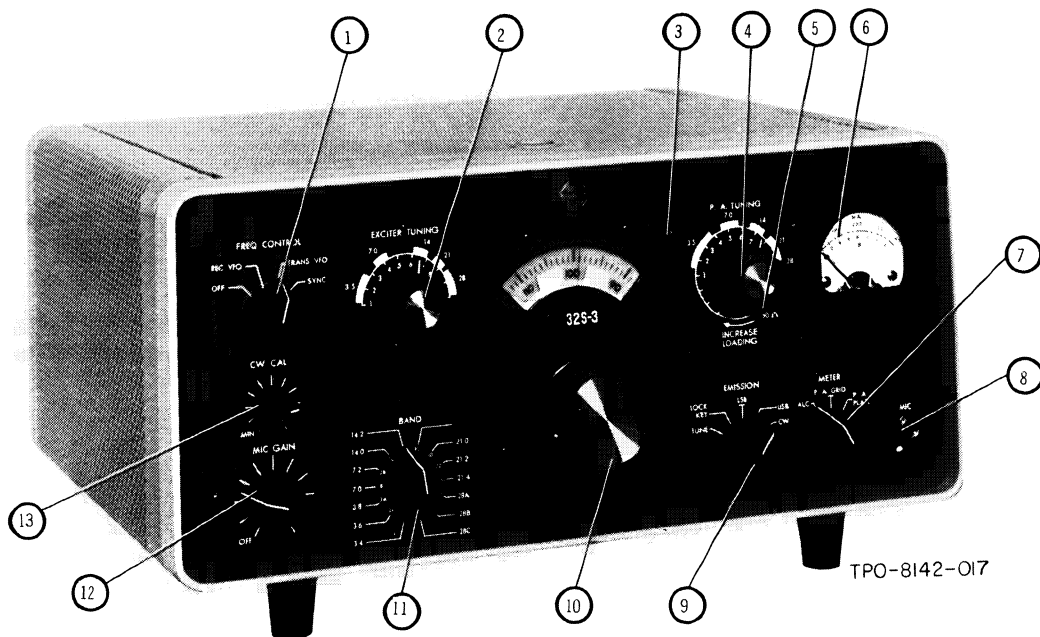

Figure 2-1. Panel Controls
- a. Refer to figure 2-1. Set FREQ CONTROL switch (1) to TRANS VFO. See table 2-1.
- b. Set BAND switch (11), EXCITER TUNING (2), and P.A. Tuning (4) to desired band.
- c. Set tuning dial (10) to desired frequency within band. For example, if BAND switch is set to 14.0 and the desired frequency is 14.195 mc, set the dial to 195. To read the frequency, add the dial setting to the BAND switch setting. As an example, if the BAND switch is set to 3.8 and the dial is set to 5, the frequency is 3.805 mc. If the BAND switch is set to 3.8 and the dial is set to 170, the frequency is 3.970 mc.
- d. Place METER switch (7) to P.A. GRID position and EMISSION switch (9) to TUNE.
- e. Turn the MIC GAIN control (12) clockwise until the meter needle just moves, then adjust EXCITER TUNING for maximum grid current indication. Adjust both MIC GAIN and EXCITER TUNING controls to